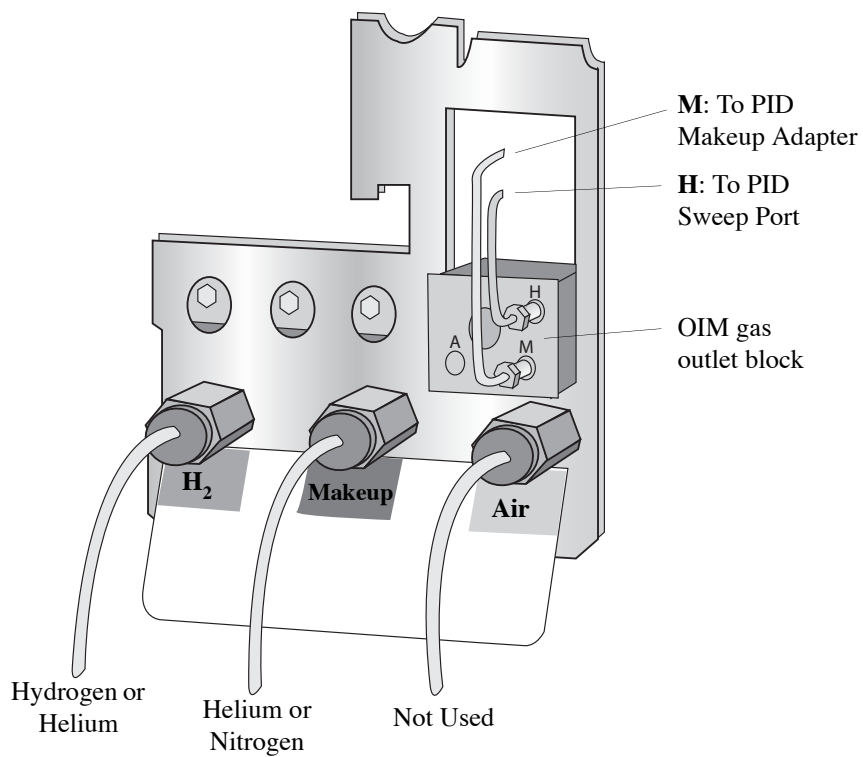
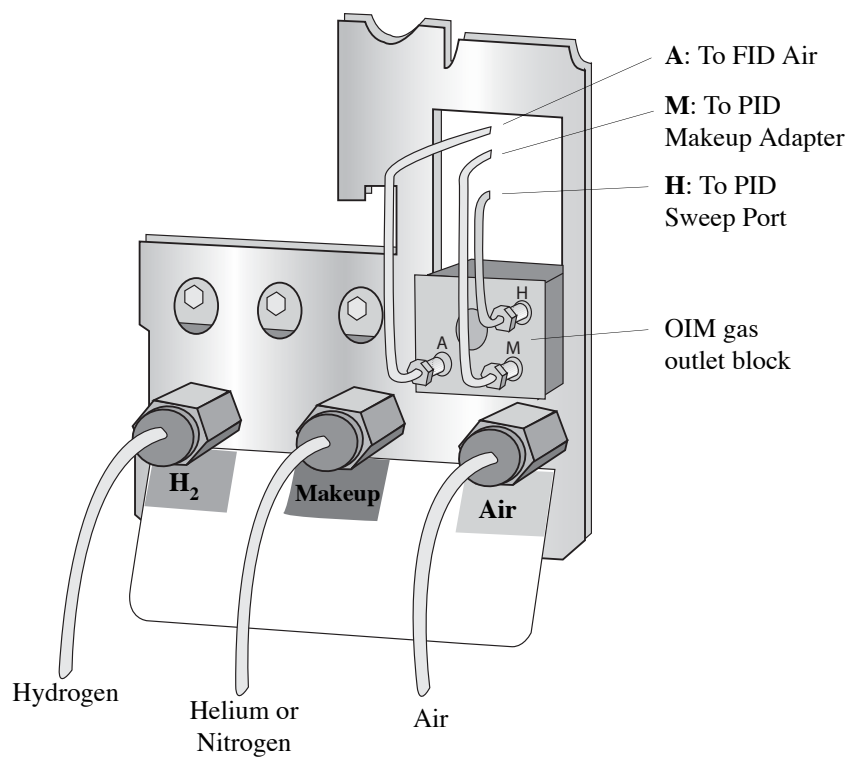
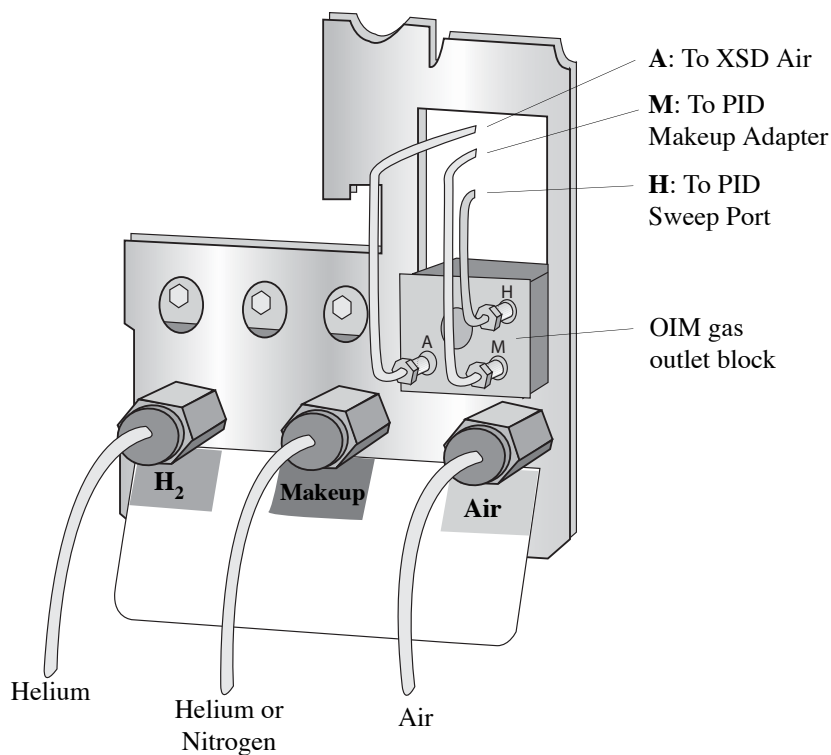
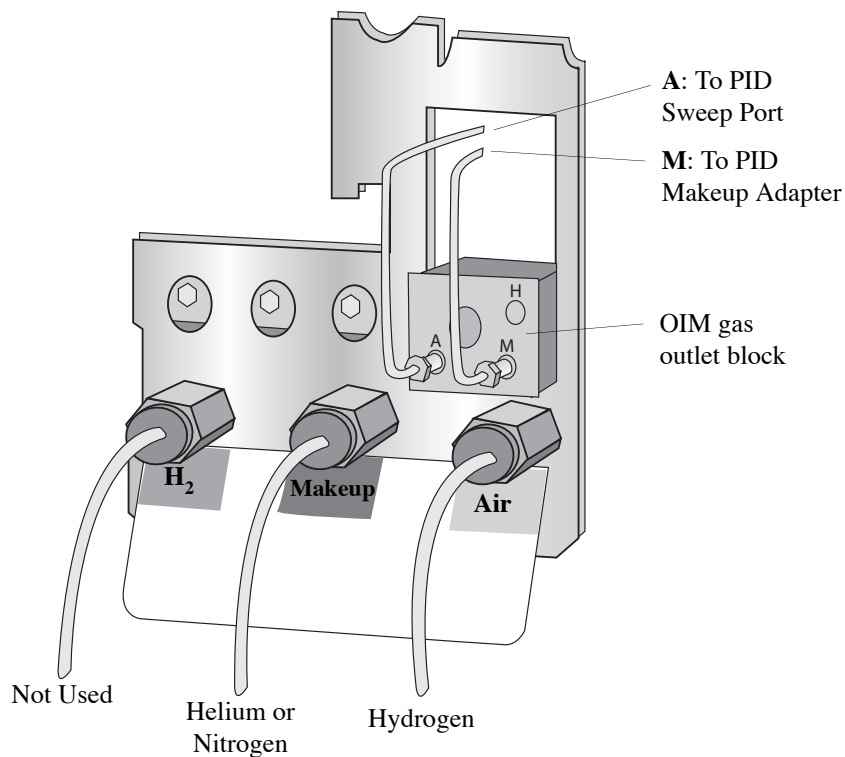

Figure 3.18. OIM Module Plumbing for PID Standalone
Figure 3.19. OIM Module Plumbing for PID/FID
Figure 3.20. OIM Module Plumbing for PID/XSD
Figure 3.21. OIM Module Plumbing for PID/ELCD
1. Use $\frac{1}{8}$ " brass nuts and ferrules to attach the appropriate supply gases to the OIM. Refer to Table 3.2 and Figure 3.18 or Figure 3.21.
3. If installing a standalone PID, PID/FID, or PID/XSD, attach the sweep gas supply line to the “H” outlet on the OIM gas outlet block using a $\frac{1}{16}$ " nut (PN 223057) and ferrule (PN 216366); refer to Figure 3.18 for PID, Figure 3.19 for PID/FID, or Figure 3.20 for XSD.
5. If installing a PID/ELCD, attach the sweep gas supply line to the "A" outlet on the OIM gas outlet block using a $\frac{1}{16}$ " nut (PN 223057) and ferrule (PN 216366); refer to Figure 3.21.